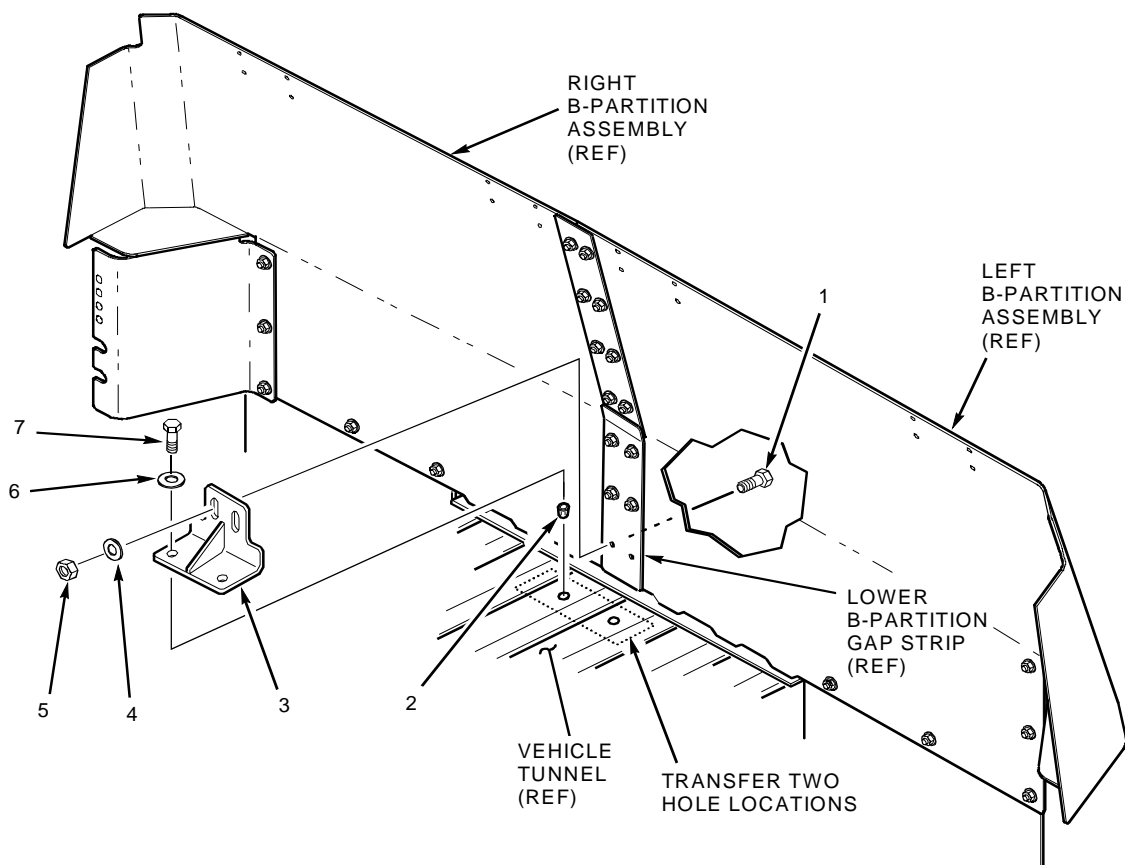

Figure 1-20. B-Partition Center Mount Bracket Installation (2 Door Only)
- 5) Install B-partition center bracket as follows (see figure 1-20).
- a. Position B-partition center bracket (3) aligning with bottom holes of lower B-partition gap strip and transfer two hole locations to vehicle tunnel as shown in figure 1-20.
- b. Drill two 13/32-inch holes into vehicle tunnel and install two upset fasteners (2).
- c. Apply fastening compound to two capscrews (7).
- d. Install B-partition center bracket (3) onto vehicle tunnel securing with two capscrews (7) and washers (6). Torque two capscrews (7) to 23 lb ft (31 N•m).
- e. Secure B-partition center bracket (3) onto lower B-partition gap strip with two capscrews (1), washers (4) and locking nuts (5). Torque two capscrews (1) to 37 lb ft (50 N•m).